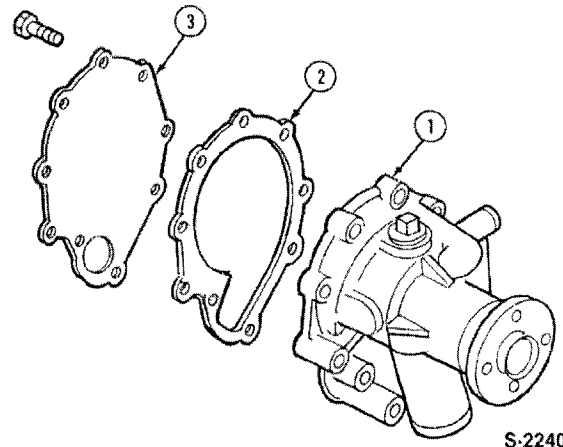

Figure 98
5. Remove the pump mounting plate and gasket, Figure 98.